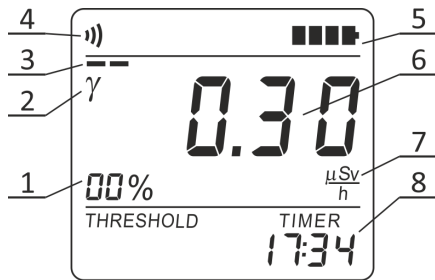

Figure 2.2 – LCD of the radiometer (viewing the value of specified limit of statistical deviations and alarm threshold level)
2.3.3.6.19 Press THRESHOLD button to view the specified limit of statistical deviations and the alarm threshold level. The specified limit of statistical deviations and the alarm threshold level are displayed on the LCD (Figure 2.2) while